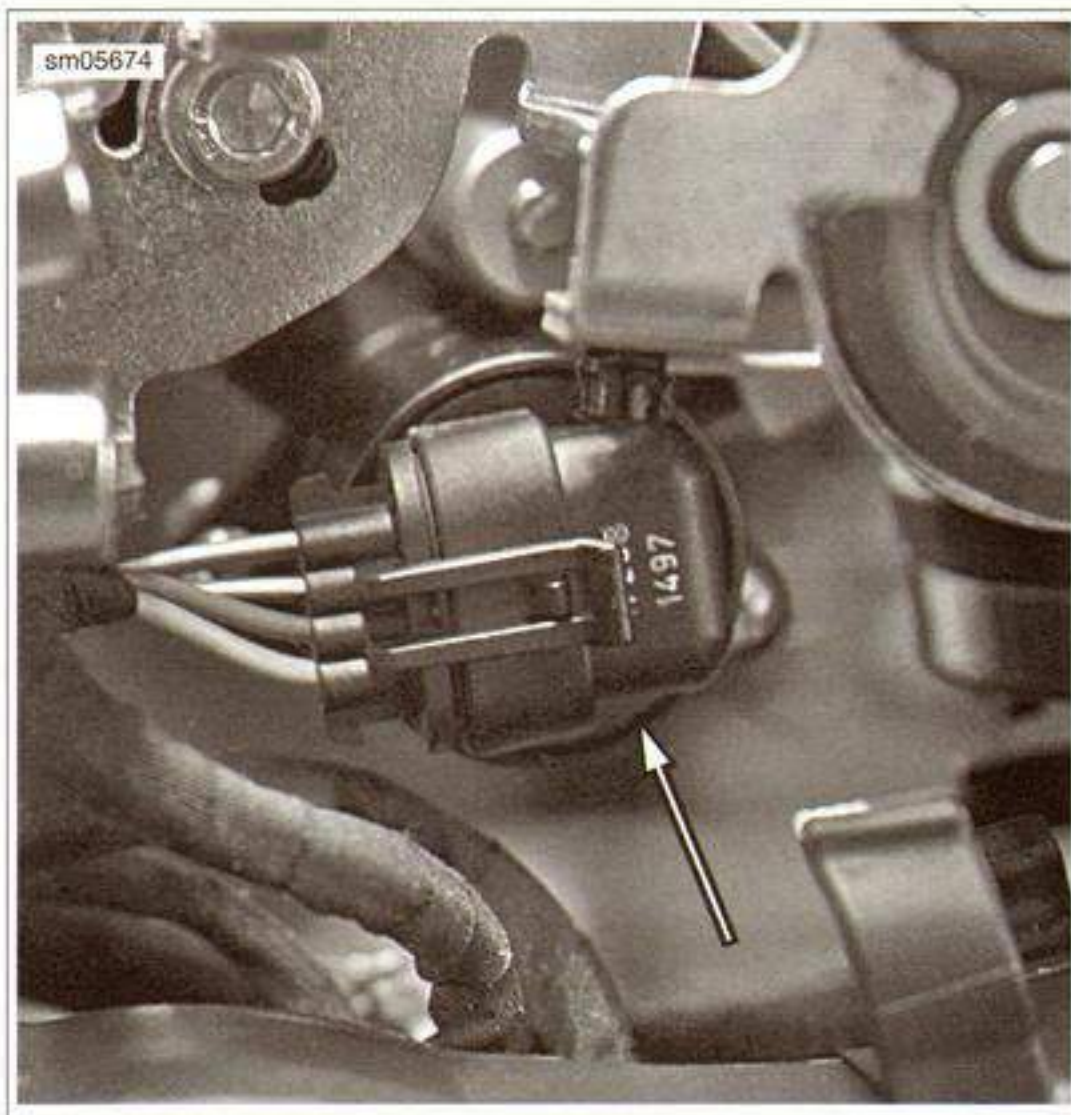

Figure 4-24. Idle Air Control [87]
4. See Figure 4-24. Separate the IAC connector [87] housings from the IAC.